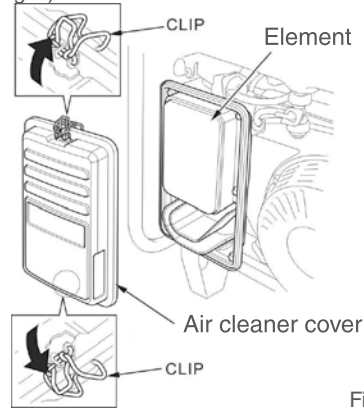

Fig.1
3.3.1 Remove the air cleaner housing (Fig. 1)